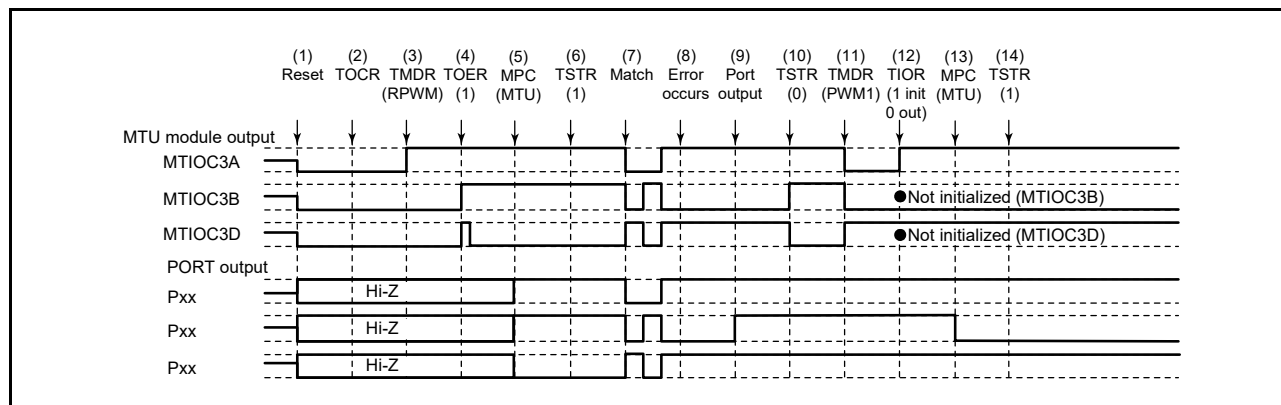

**Figure 24.179 Error Occurrence in Reset-Synchronized PWM Mode, Recovery in Normal Mode**
Figure 24.179 shows a case in which an error occurs in reset-synchronized PWM mode and operation is restarted in normal mode after re-setting.
(1) to (10) are the same as in Figure 24.179.
(11) Set PWM mode 1 (positive-phase MTU output goes low, and negative-phase output goes high).
(11) Disable output in MTU3 and MTU4 (MTU6 and MTU7) with the TOERA (TOERB) register.
(12) Select the complementary PWM output level and enable or disable cyclic output with registers TOCR1A and TOCR2A (TOCR1B and TOCR2B).
(13) Set complementary PWM mode (MTU cyclic output pin goes low).
(11) Set MTU output using the MPC and port mode registers (PMR) corresponding to the I/O ports.
(12) Restart operation by setting the TSTR (TSTRB) register.
(13) The reset-synchronized PWM waveform is output on compare match occurrence.